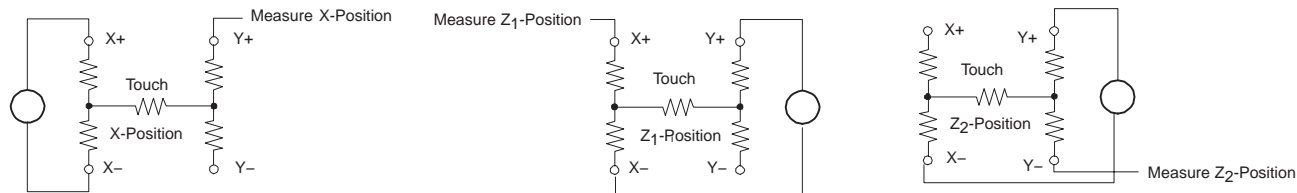

Figure 11. Pressure Measurement
Measuring touch pressure (Z) can also be done with the TSC2102. To determine pen or finger touch, the pressure of the *touch* needs to be determined. Generally, it is not necessary to have very high performance for this test; therefore, the 8-bit resolution mode is recommended (however, calculations are shown with the 12-bit resolution mode). There are several different ways of performing this measurement. The TSC2102 supports two methods. The first method requires knowing the X-plate resistance, measurement of the X-Position, and two additional cross panel measurements (Z_2 and Z_1) of the touch screen (see Figure 11). Using equation 1 calculates the touch resistance: